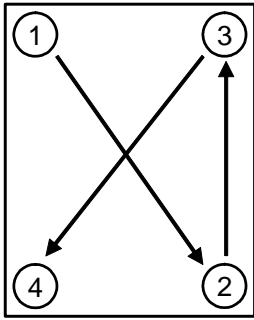

Fig.5-10 : Example of order which tighten bolts
- 5) Confirm that packing is stuck correctly and install the cover. When tightening the bolts fixing the cover, avoid tightening them to a specified torque at a time. Tighten the bolt in the order shown as much as possible in the "Fig. 5-10: Example of order which tighten bolts." The torque which tightens the fixing bolt of each cover is shown in "Table 5-3 : Cover and Packing names".